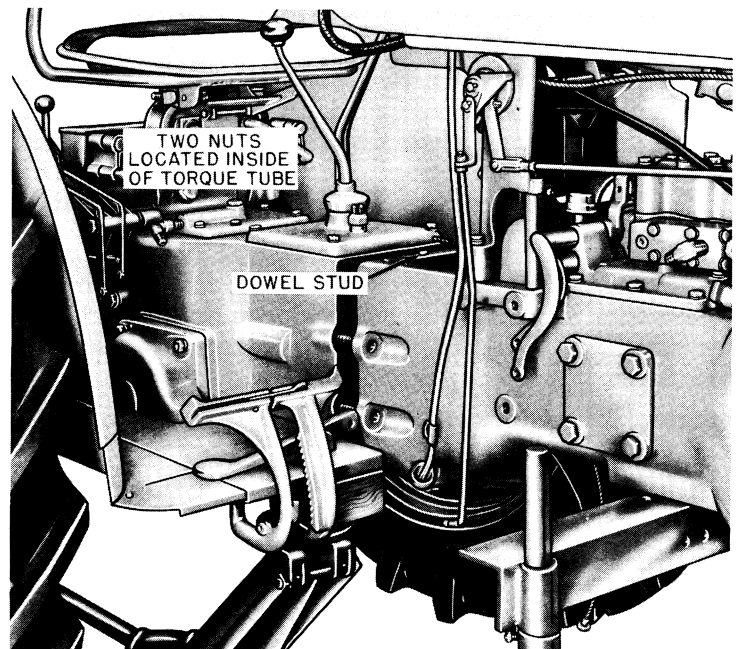
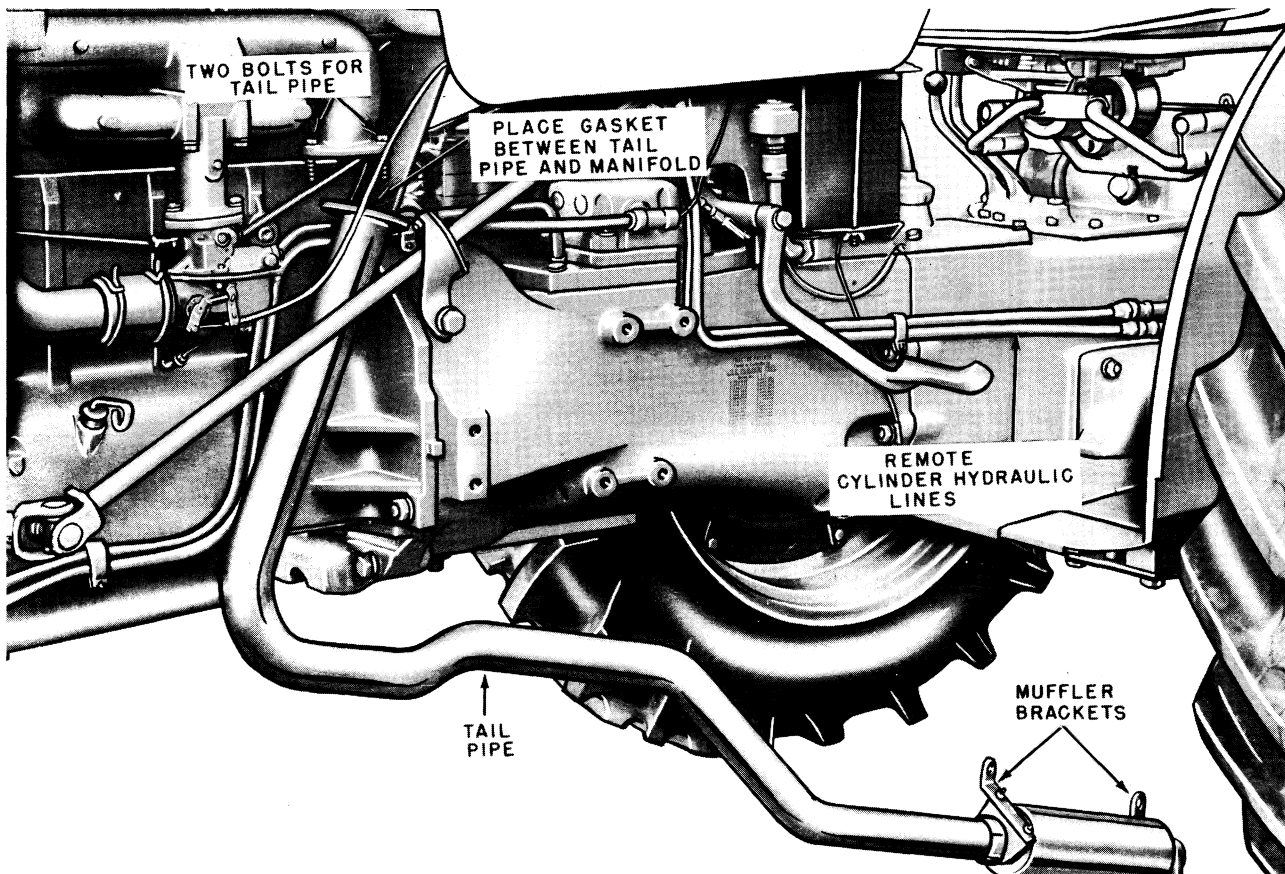
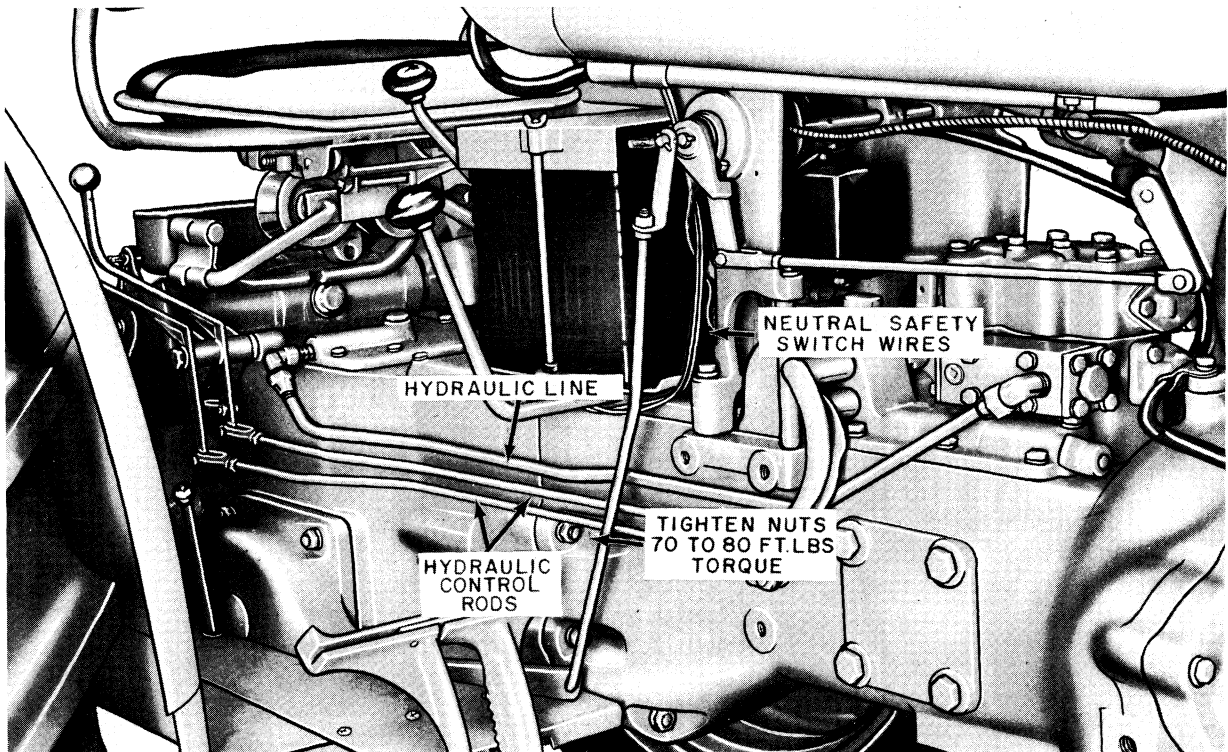
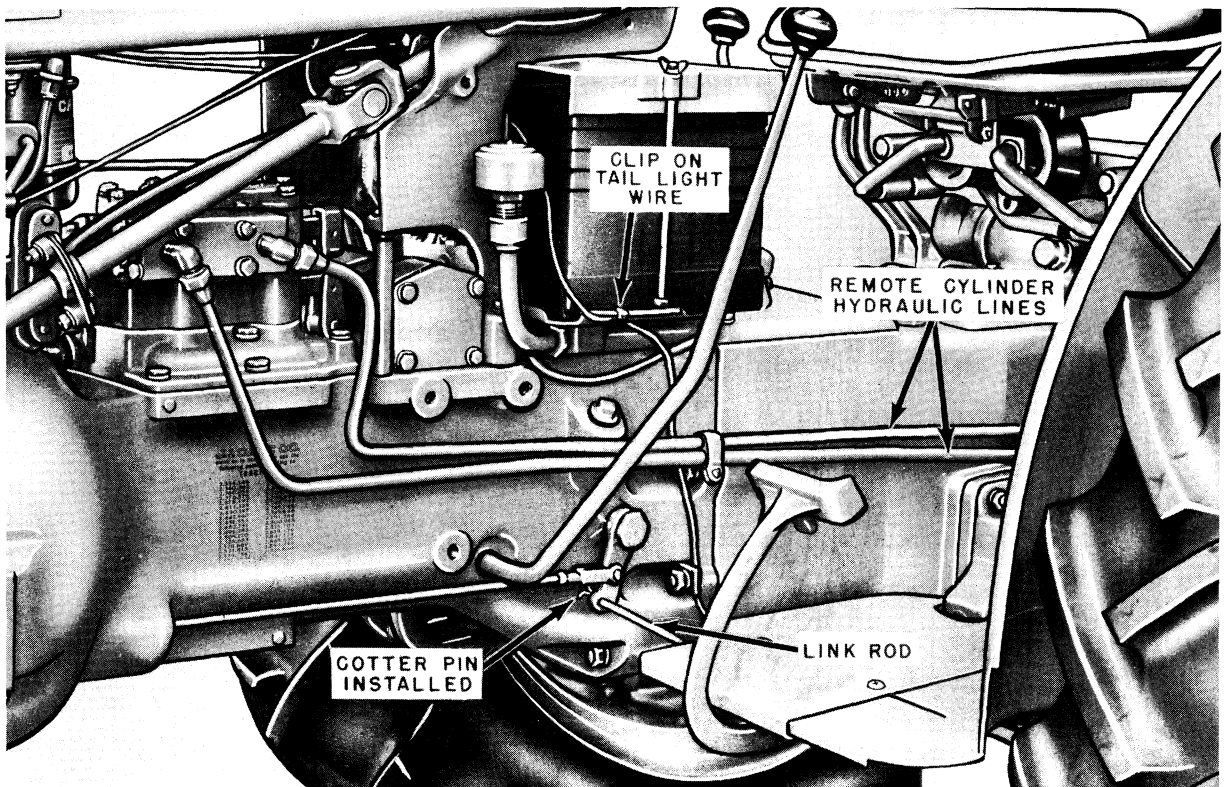

Fig. A-16 Assembling Transmission to Torque Tube - Right Hand View
Fig. A-18 Installing Underneath Muffler and Torque Tube to Transmission
Fig. A-19 Parts Correctly Installed Right Side of Tractor at Rear of Torque Tube
Fig. A-20 L.H. View Dry Clutch Tractor - All Parts Assembled to Tractor
19. Remove 1/2" nuts from studs securing transmission to torque tube. Two of the studs are located inside the torque tube case, just below the top edge. Fig. A-16.
3. After the transmission is assembled to torque tube, install the lock washers and nuts holding the torque tube and transmission together. Be sure to install the two nuts and lockwashers inside of the torque tube. Studs are mentioned in Fig. A-16. Tighten nuts 70 to 80 ft. lbs. torque. Be sure tail light wire clip is attached to the stud shown in Fig. A-20, page A-19.
7. Attach hydraulic lines if tractor is so equipped. Fig. A-18 and Fig. A-19, page A-19.
10. If the tractor is equipped with underneath muffler install the two bolts with gasket in place between manifold and tail pipe. Fig. A-18. Position muffler brackets over studs on side of transmission case and tighten nuts.
12. Connect foot throttle rod to pedal. Fig. A-19. 13. Insert clutch control rod into pivot arm and install cotter pin. Fig. A-20.